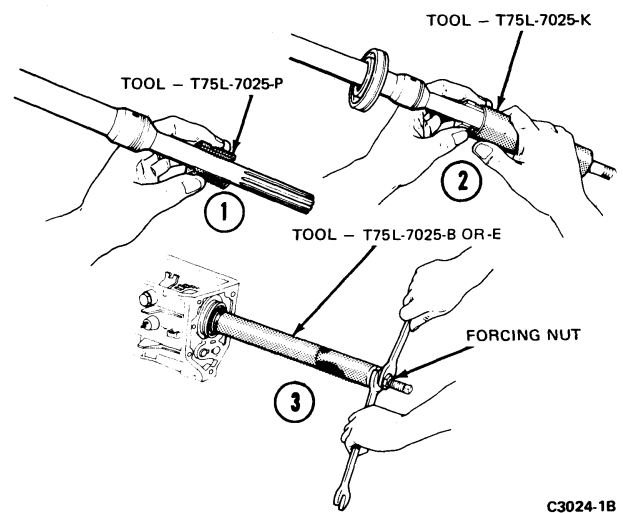

FIG. 21 Installing Output Shaft Rear Bearing
19. Install the large snap ring on the rear bearing. Place the bearing on the output shaft with the snap ring end toward the rear of the shaft. Press the bearing into place with the tool shown in Fig. 21. Secure the bearing to the shaft with a snap ring.